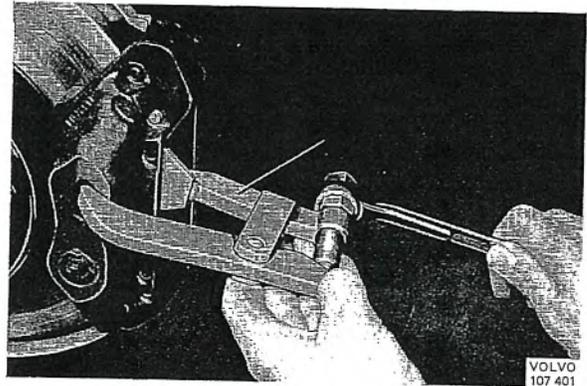

Fig. 5-15. Pressing in piston
6. To provide room for the new brake pads, press the pistons into the cylinders. The pistons can be pressed in evenly and without risk with tool 2809 according to Fig. 5-15. If done properly, the pistons can be pressed in perhaps more rapidly with another tool in the same way but,